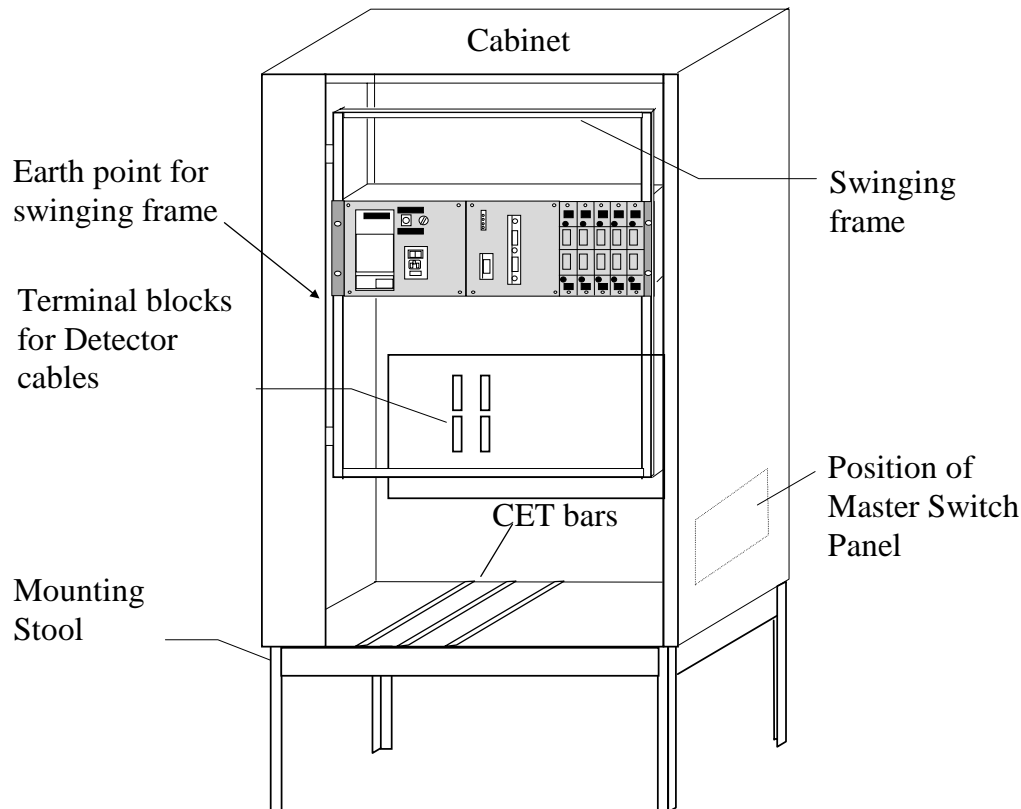

Figure 10 - The ST800 MEC
- A suitable 19 inch rack with at least 3 'U' height. See Figure 10.